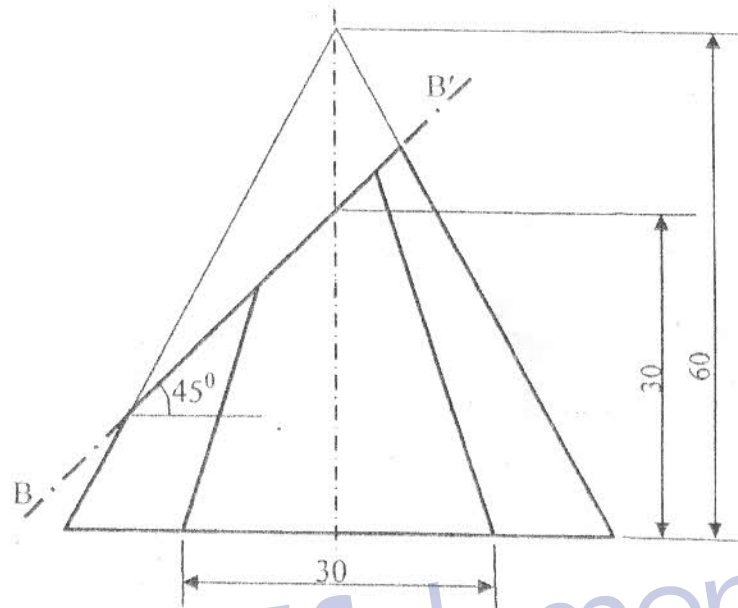

Fig. 2
- (b) Figure 2 shows the front elevation of truncated hexagonal base pyramid. Copy the front elevation and complete the : (15 marks)